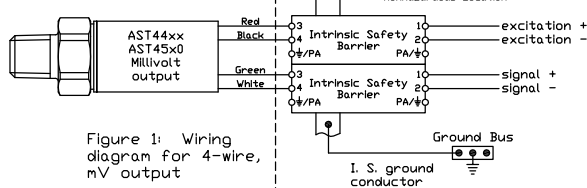

Figure 1: Wiring diagram for 4-wire, mV output
- For installations in accordance with Figs. 1 and 3, one dual-channel or two single-channel barriers may be used, where in either case, both channels have been Certified for use together with combined entity parameters.